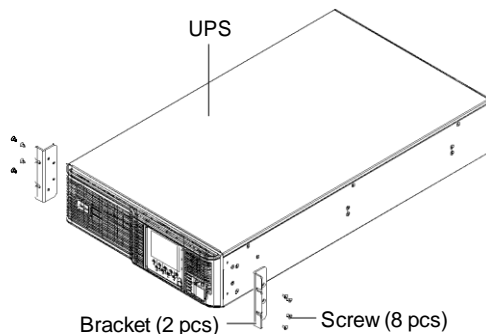

Figure 2-3 Installing brackets
1. Take out eight M4\*10 screws, and fix two brackets (accessories) respectively on both sides of the UPS front panel, as shown in Figure 2-3.